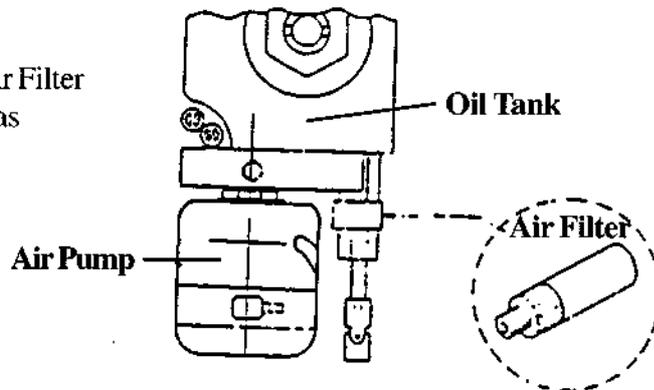

Figure 8
2. Periodically remove the screw-in type Air Filter shown in Figure 8. Wash and air blow dry as described in paragraph above.